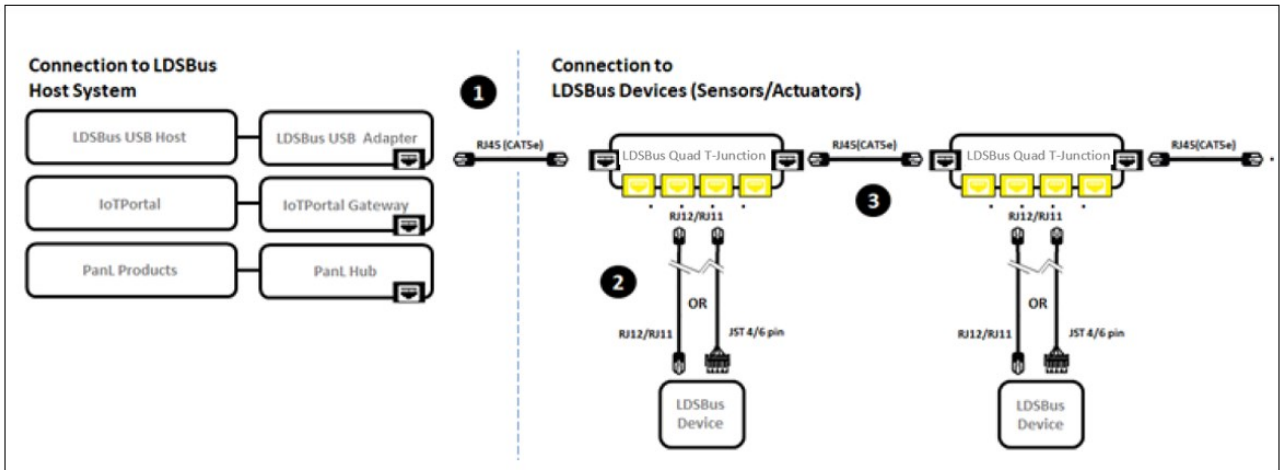

Figure 2 - LDSBus EC Sensor Adapter to LDSBus - Connection Diagram
Figure 2 illustrates the connection of the LDSBus EC Sensor Adapter (LDSBus Device) to the LDSBus. Please visit <https://brtsys.com/resources> to view the full device application, setup, and installation guides.
2. Connect the configured LDSBus EC Sensor to the LDSBus Quad T-Junction as shown in Figure 2.
3. If there is more than one LDSBus Quad T-Junction, chain them together as shown in Figure 2.